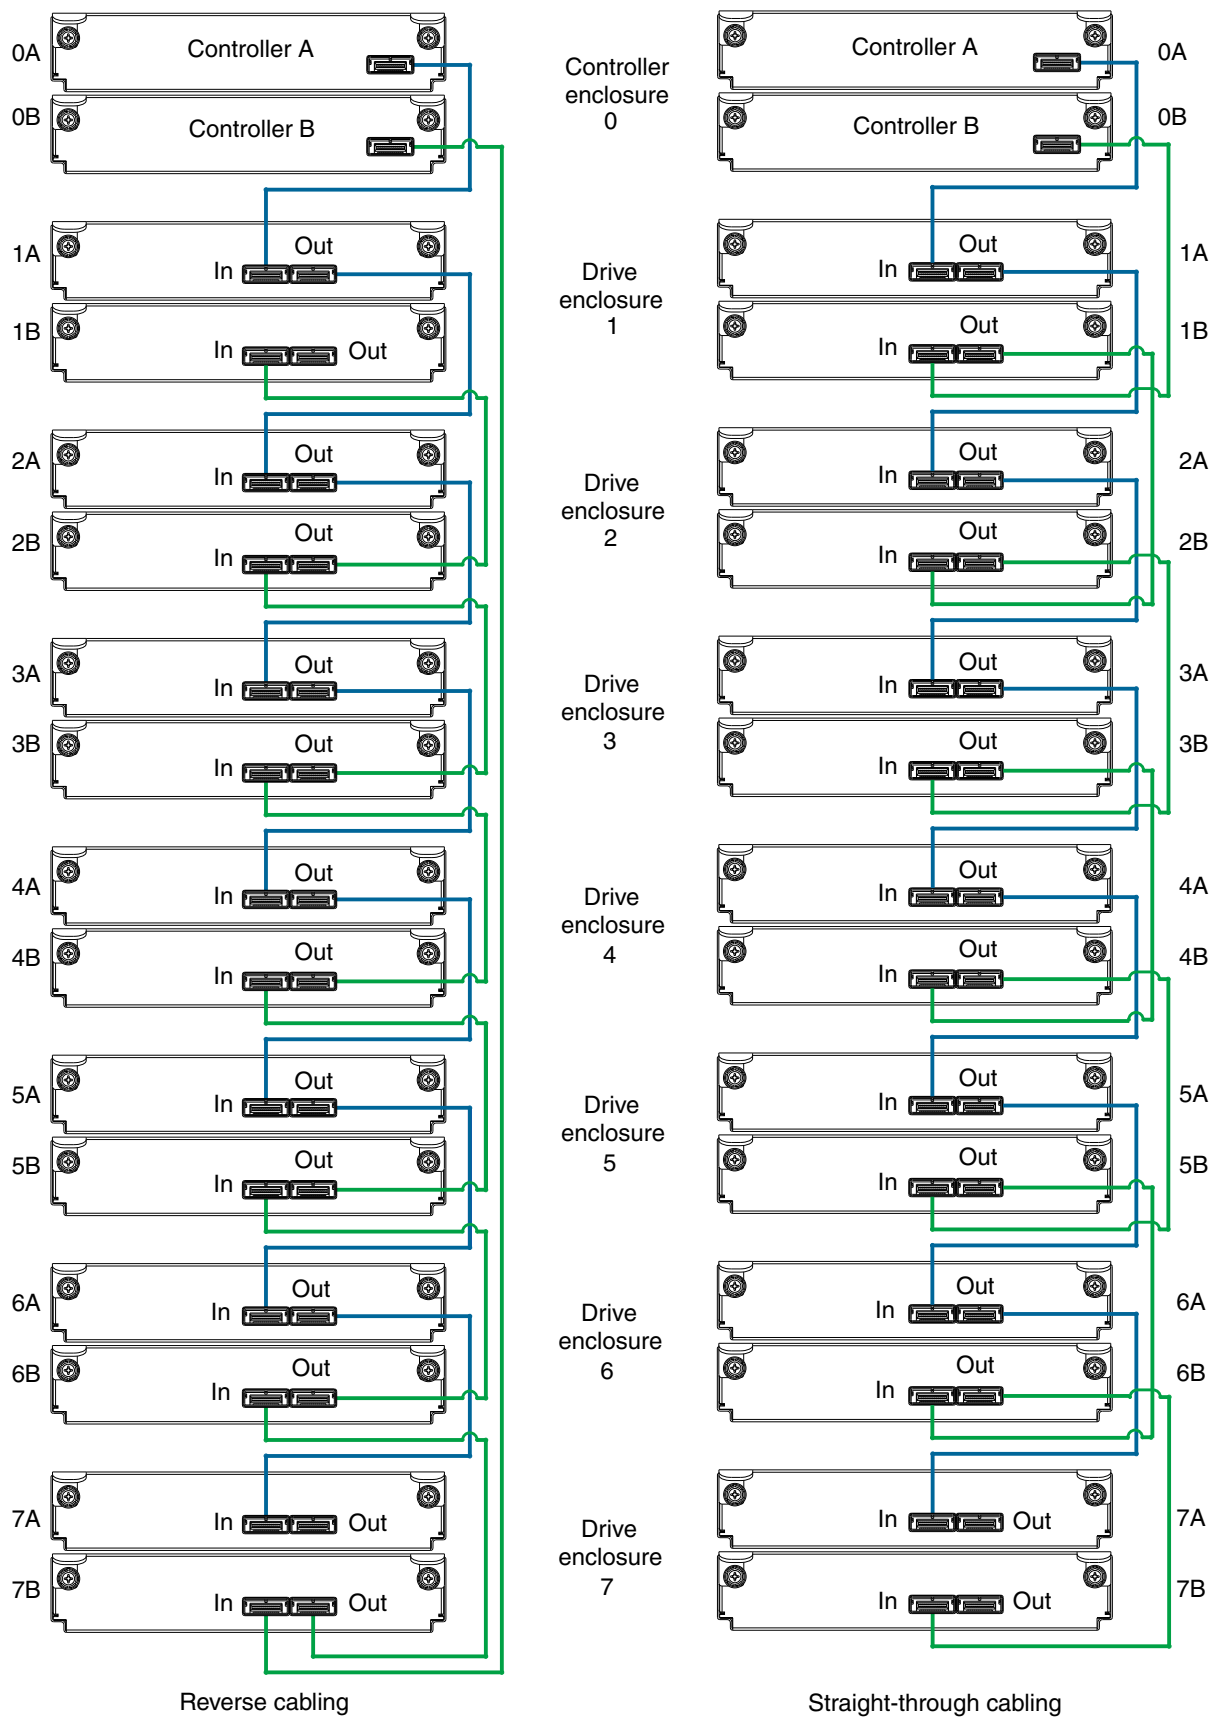

Figure 14 Fault-tolerant cabling between a dual-controller enclosure and seven 2U drive enclosures
- You may need to order additional or longer cables when reverse-cabling a fault-tolerant configuration (see Figure 14 on page 27).
- Figure 14 on page 27 shows maximum supported enclosures for an S3200 array.